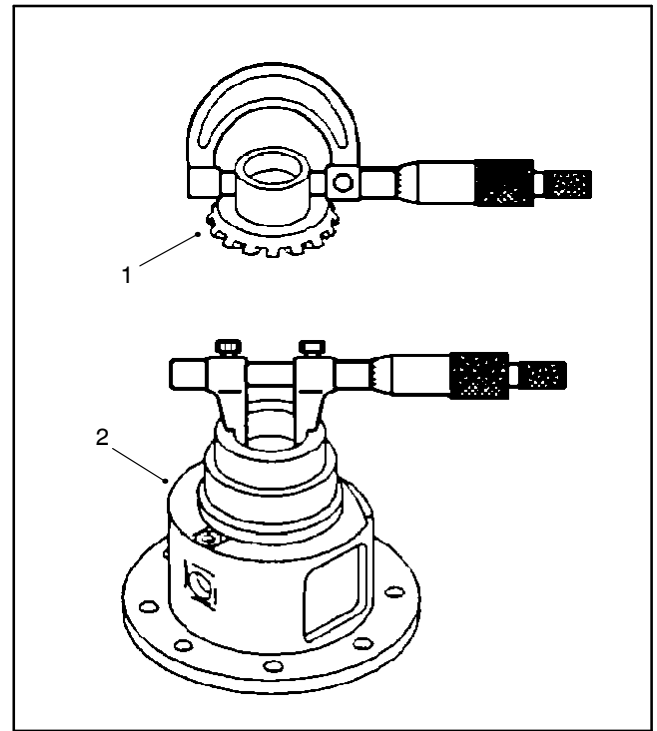

Figure 40
1. Measure the differential side gear O.D. and the differential case I.D. to determine the side gear to case clearance (Fig. 40). Replace components as necessary.